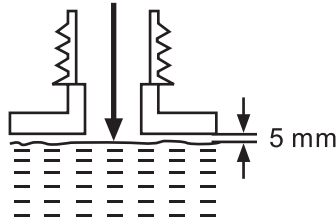

Fig. 8b
3. Use a proper funnel with a filter to prevent debris entering the tank and to avoid spilling and overflowing the tank. Do not overfill and leave approximately 5 mm of space to the lower edge to allow the lubricant to expand. (See Fig. 8b)